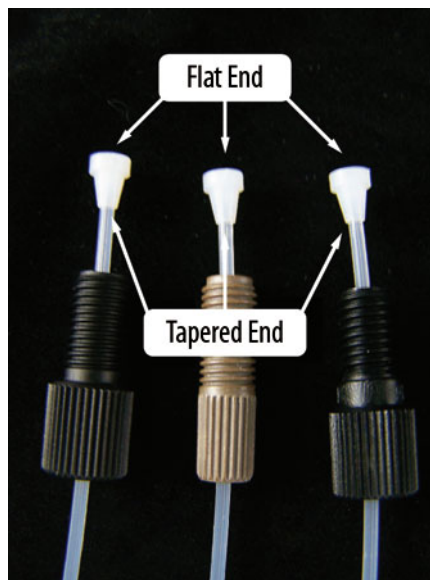

Figure 3. White ferrule with tapered end facing the nut.
Note: Be sure that the ferrule is installed correctly. For instructions on ferrule installation see **Figure 3**.
- 1/16" Flangless White Ferrules should be installed on the tubing so that the tapered end faces the tubing nut and the flat end faces out (**Figure 3**).